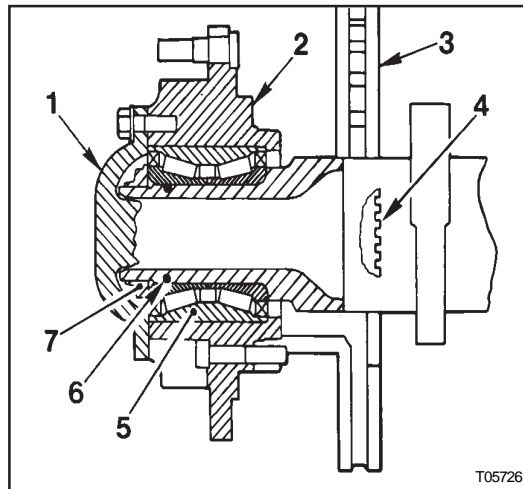

**Figure 9: Hub nut socket (Van Hool ordering No. 10732280)**
5. Remove axle shaft (1).
6. Remove hub nut (7) using the socket of figure 9.
1. Press "unified" bearing (5) into hub (2) by using a proper drift. Refer to Dana "Service manual single axle" for the proper dimensions of the drift.
2. Secure brake disc (3) to hub (2). Tightening torque: 275 to 305 Nm (205 to 225 ft.lbf).
3. Thoroughly clean the axle spindle. Only when installing a previous type "unified" bearing: fit a new O-ring (6)
6. Install hub nut (7) and tighten to a torque of 360 to 400 Nm (265 to 295 ft.lbf) using the socket of figure 9.
9. Check that hub nut (7) tightening torque is between 1300 and 1470 Nm (980 and 1085 ft.lbf).
10. Apply Loctite 518 on the mating surfaces of axle shaft (1) and hub (2). Install axle shaft (1). Tighten the axle shaft retaining screws to a torque of 350 to 390 Nm (260 to 290 ft.lbf).